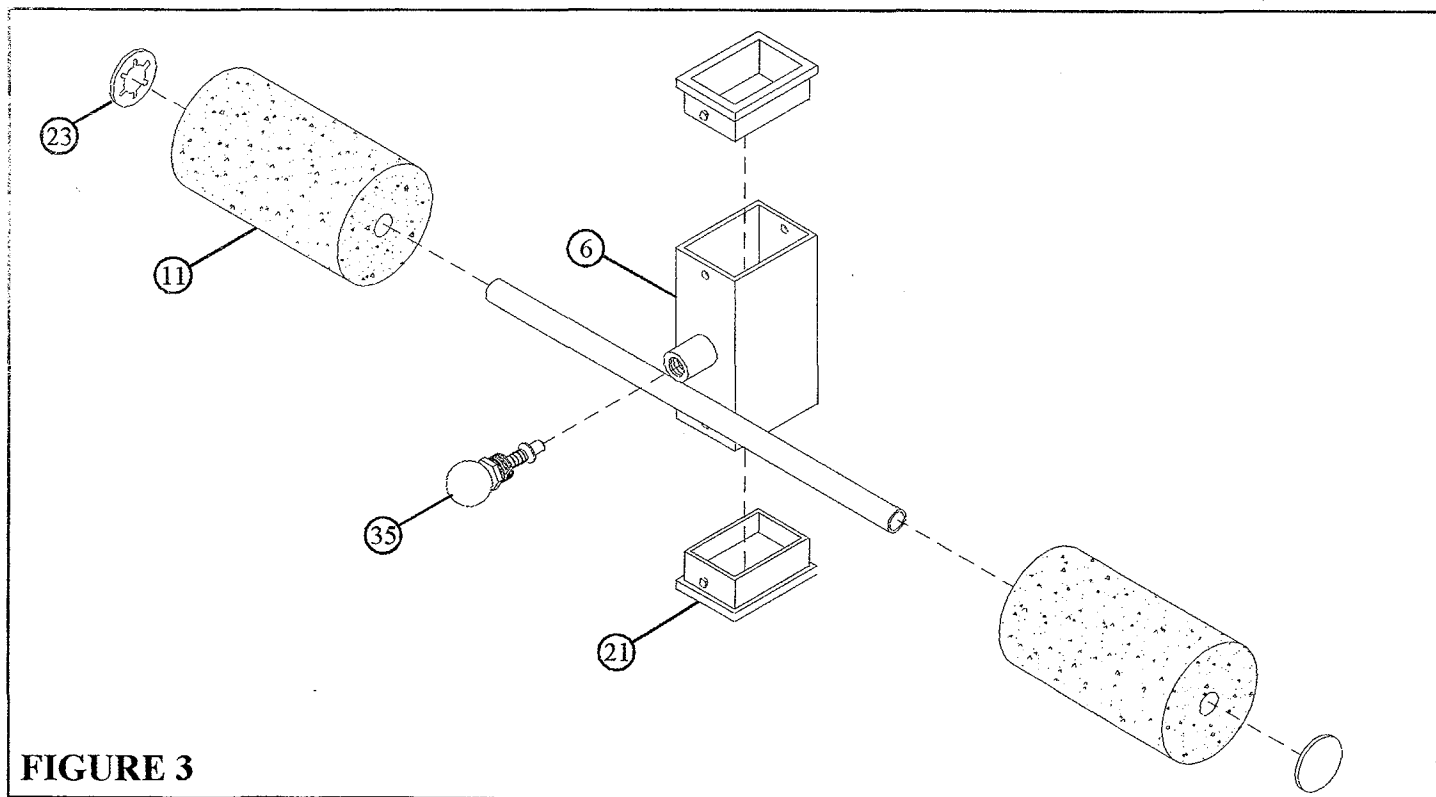

**FIGURE 2**
- Attach eight 1 X 1" GLIDES (39) to the ends the CARRIAGE (5) as shown in FIGURE 2 using the following steps:
- Thoroughly clean all surfaces where the 1 X 1" GLIDES (39) are to be attached.
- Remove the 1 X 1" GLIDES (39) from the paper backing and firmly apply them to all shown surfaces.
- **SECURELY** attach one 1-1/4" SQ. RUBBER BUMPER (24) to the CARRIAGE (5) as shown in FIGURE 2.